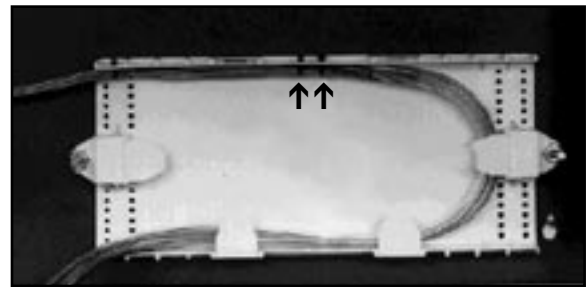

FIGURE 5 - SECURING BUFFER TUBES AND TRANSPORT TUBES TO TRANSITION ASSEMBLY
4.12 Using two of the tie-wraps supplied with the Splice Tray(s), secure the buffer tubes (or unitube) and Transport Tubes to the upper wall of the Transition Assembly. (Figure 5)